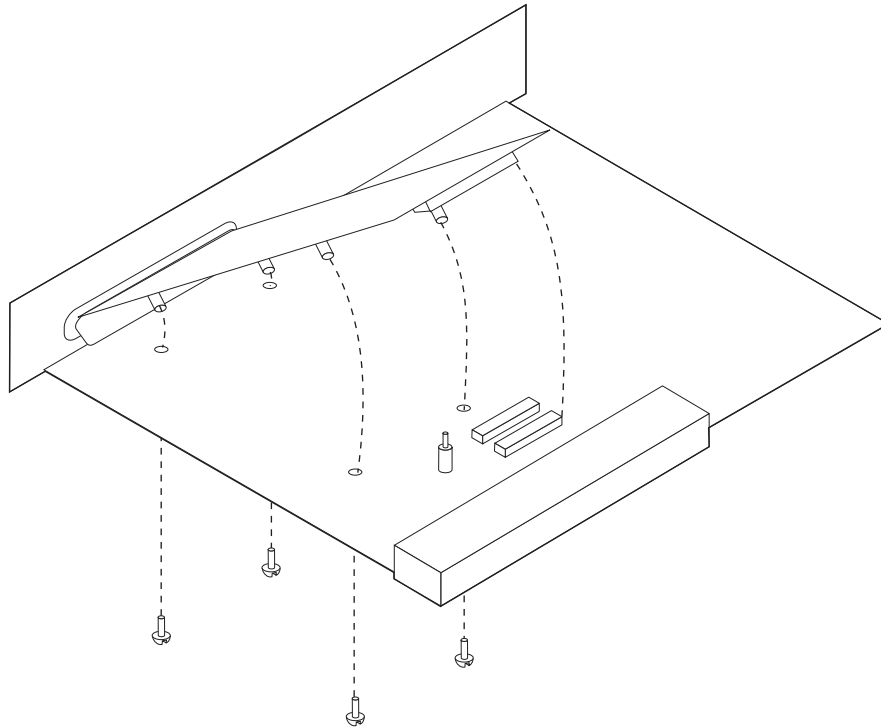

Figure 2-3. Installing a PMC Adapter on a Standard System Card
- a. Remove the screws that attach the PMC Adapter to the PMC stand-offs. (See Figure 2-3.)